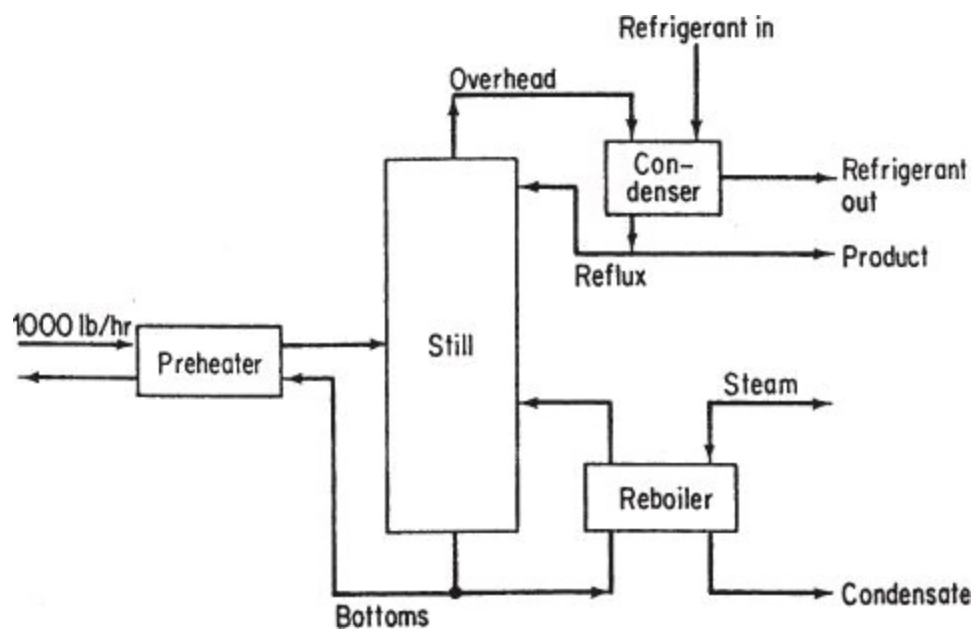

Figure P9.3.51
****9.3.51. A distillation process has been set up to separate an ethylene-ethane mixture as shown in Figure P9.3.51 on page 595. The product stream will consist of 98% ethylene, and it is desired to recover 97% of the ethylene in the feed. The feed, 1000 lb/hr of 35% ethylene, enters the preheater as a subcooled liquid (temperature = -100°F , pressure = 250 psia). The feed experiences a 20°F temperature rise before it enters the still. The heat capacity of liquid ethane may be considered to be constant and equal to $0.65 \text{ Btu}/(\text{lb})(^{\circ}\text{F})$, and the heat capacity of ethylene may be considered to be constant and equal to $0.55 \text{ Btu}/(\text{lb})(^{\circ}\text{F})$. Heat capacities and saturation temperatures of mixtures may be determined on a weight fraction basis. An optimum reflux ratio of 6.1 lb reflux/lb product has been previously determined and will be used. Operating pressure in the still will be 250 psia. Additional data are as follows: